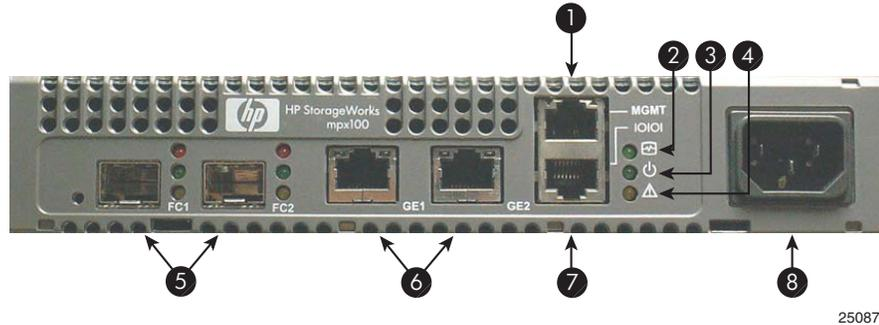

Figure 10 The mpx100 port and LED locations
2. Verify that the Heartbeat LED is blinking (once per second) and that the Input Fault LED is not illuminated. Figure 10 shows the location of the ports and LEDs on the mpx100/100b.